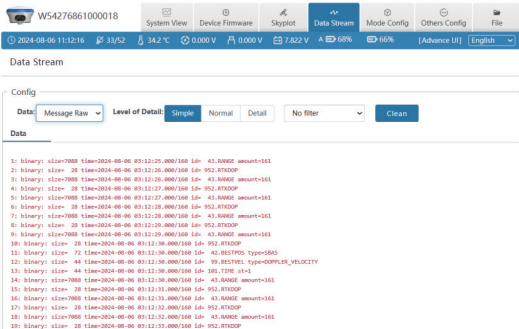

Figure 2.4-3
2.Message Raw: as shown in Figure 2.4-3:
3.Message Diff: when the device is a base station, you can check here whether there is differential data output, as shown in Figure 2.4-3: